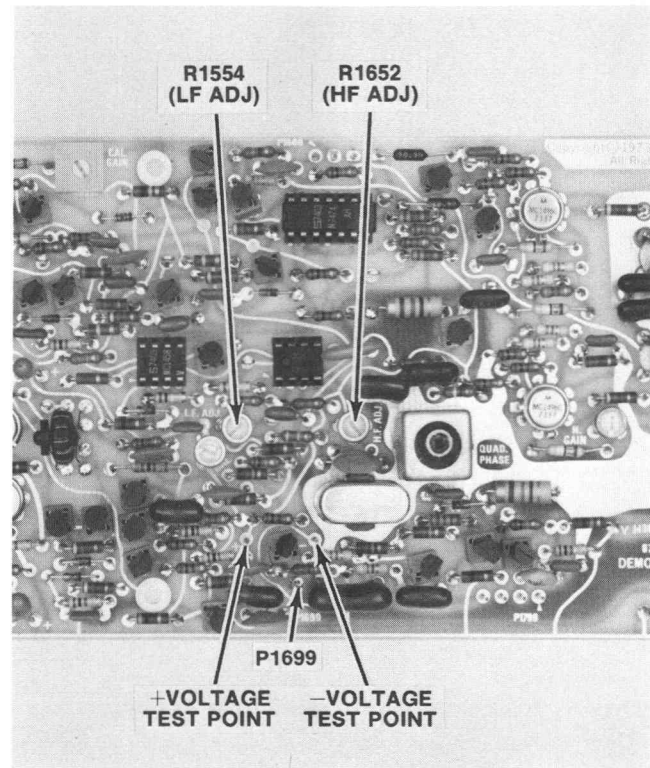

Fig. 3-15. Oscillator range test points and adjustments.
- Connect the 1X probe from the Test Package digital counter to TP1775 on the Demodulator board. See Fig. 3-15. The digital counter will display the subcarrier frequency.
- Connect a short piece of wire between P1699 and the + voltage pin. See Fig. 3-15.
- Move the short piece of wire to connect P1699 to the -voltage pin. See Fig. 3-15.